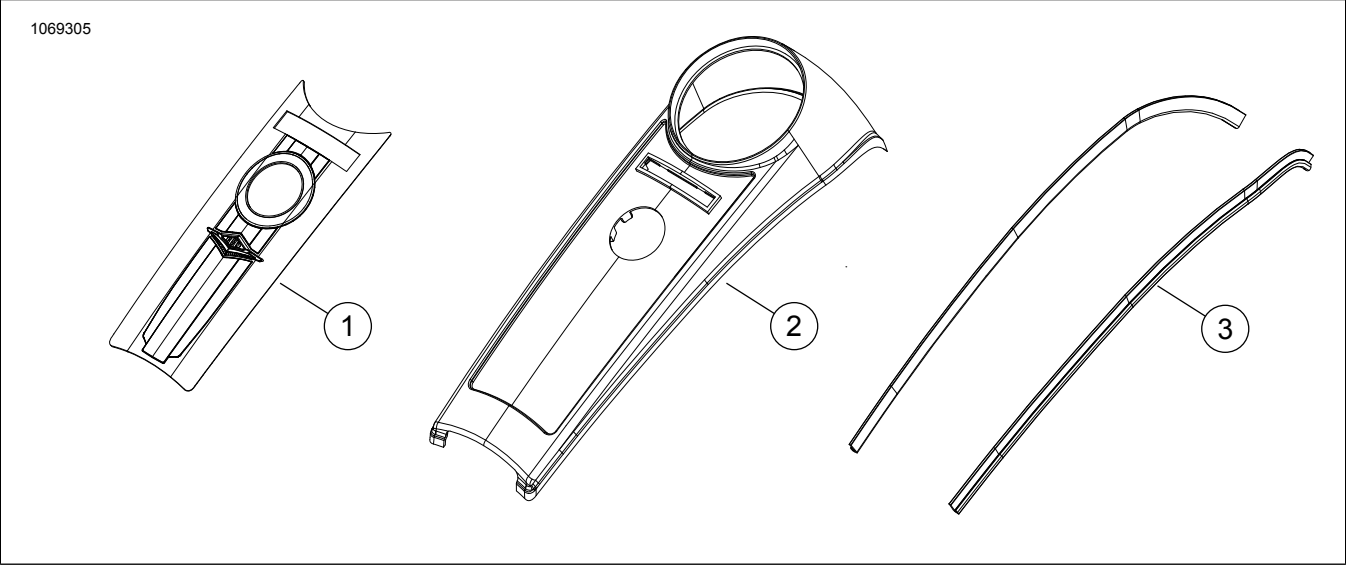

Figure 1. Service Parts: Black Console Kit
See Figure 1 and Table 1.
1. See Figure 1. Clean the area on the console (2) for the medallion. See Adhesive Strips.
2. Remove the protective tape from the adhesive backing of the console medallion (1). Attach the medallion to the cleaned area on the console (2).
3. Attach the rubber moulding trim (3) to the sides of the console.